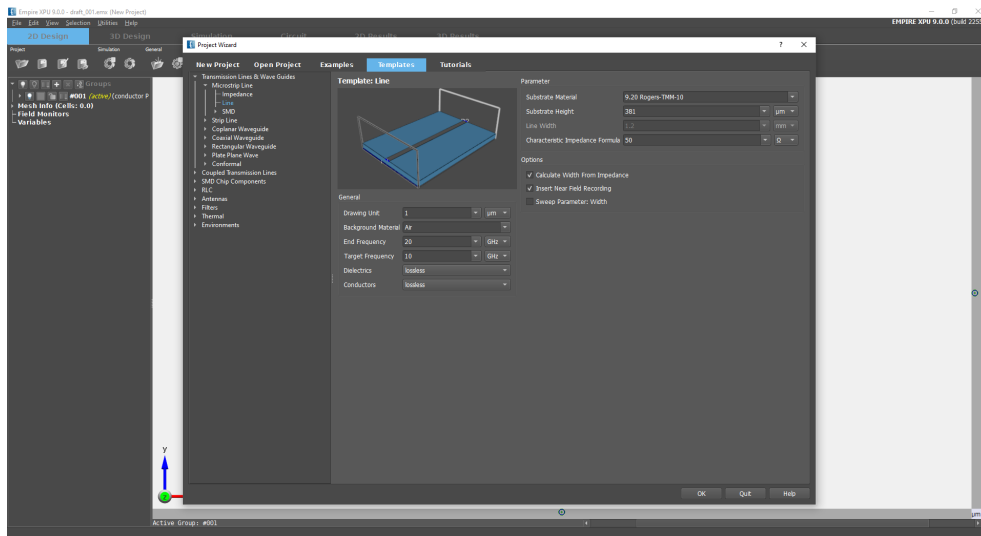

Figure 3.1.: EMPIRE XPU™ Start-up Window
- Check: if the full screen comes up, see Figure 3.1, the license is working